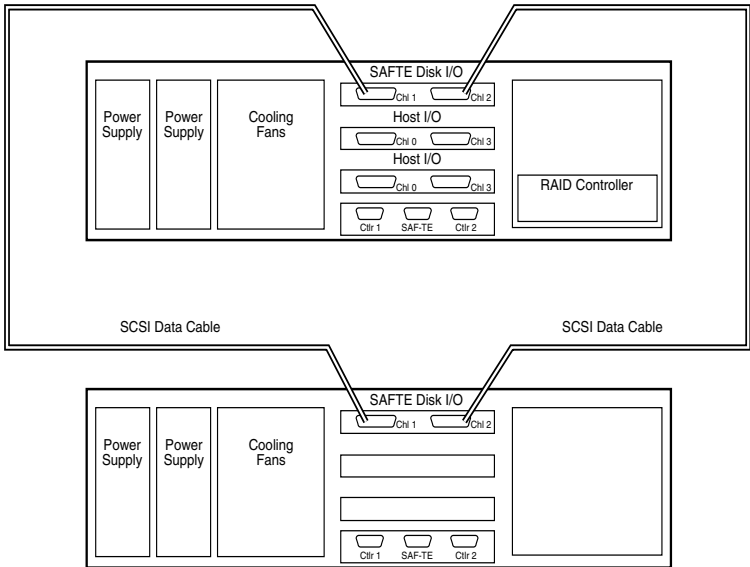

Figure C-8 Enclosure Cabling Diagram
- 7 Connect the SCSI data cables from the DuraStor 6320SS to the daisy-chain enclosures' SAF-TE disk I/O card as shown in Figure C-8.
- 11** Connect the SCSI data cables as shown in Figure C-8.